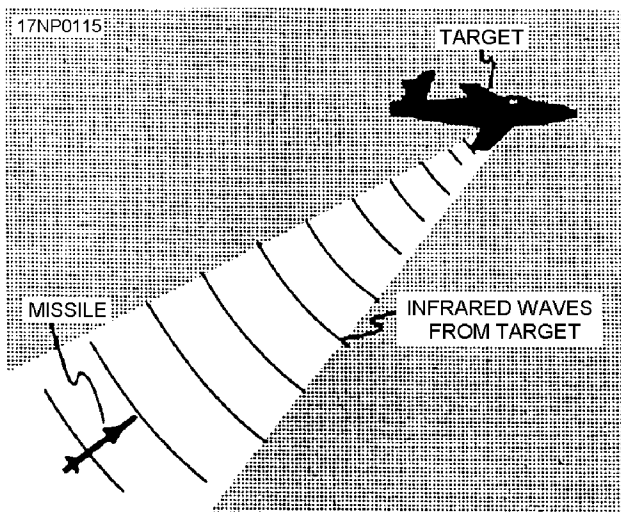

Figure 3-5.—Passive homing system.
**PASSIVE.**—In the passive homing system (fig. 3-5), the directing intelligence is received from the target. Examples of passive homing include homing on a source of infrared rays (such as the hot exhaust of jet aircraft) or radar signals (such as those transmitted by ground radar installations). Like active homing, passive homing is completely independent of the launching aircraft. The missile receiver receives signals generated by the target and then the missile control section functions in the same manner as previously discussed.